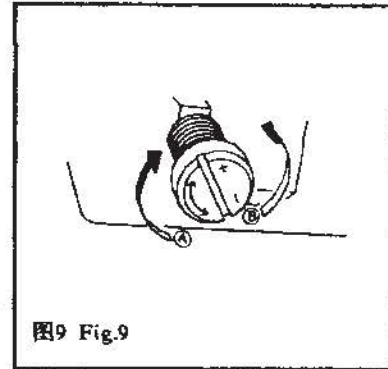

图9 Fig.9
c. 调节旋梭油量（图 9）
c. Adjusting the oil of rotary hook (Fig 9)